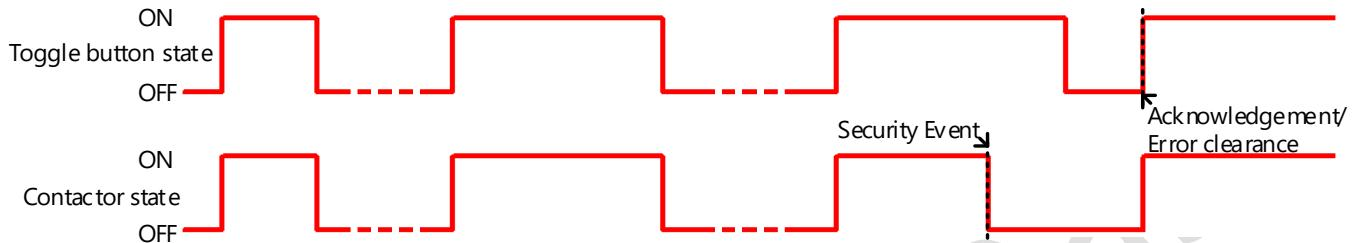

Figure 47: example of a toggle button use for controlling the contactor states
- In maintained mode (see Figure 47), when the control signal is released back to a low level, the error is acknowledge and cleared. When the control signal gets back in a high level state, the contactors are turned back ON.